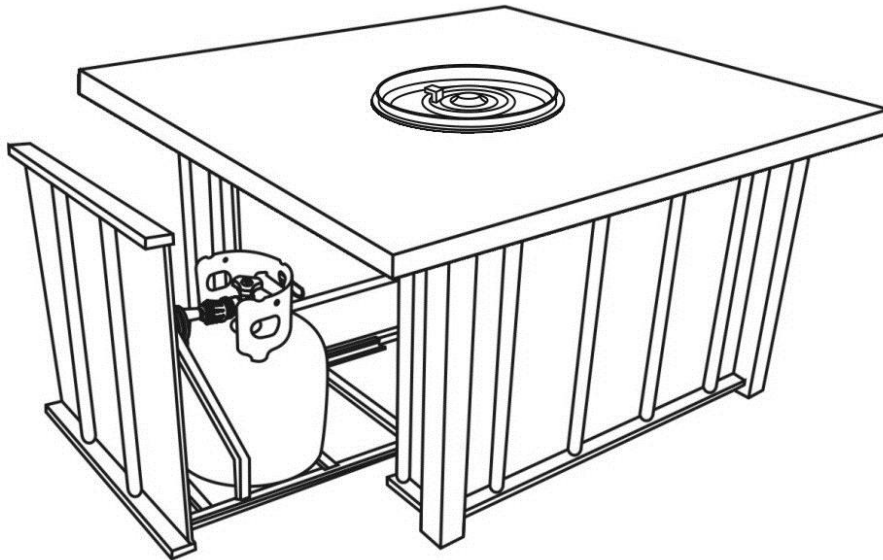

Figure 11
- Lift off the tank door, place the tank in the holder and use the chain to hold the tank. Connect the regulator as shown in Fig. 11. Screw the black handle clock-wise to tighten. Turn the handle counterclock-wise to remove. The hose must point down. Open the control door and check that the valve is turned all the way clockwise to the “OFF” position. Open the tank valve. Apply a solution of soapy water to the tank-regulator connection and to the valve-hose connection to check for leaks. If soap bubbles continue to form, the connection has a leak. If a leak is found, close the tank valve and tighten all connections. **NEVER USE A FLAME TO CHECK FOR LEAKS.**